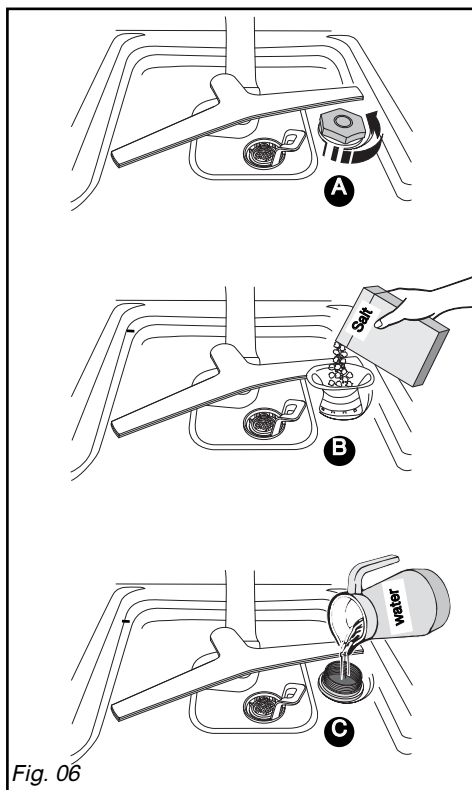

Fig. 06
• Loading of regenerating salt (Fig 06)